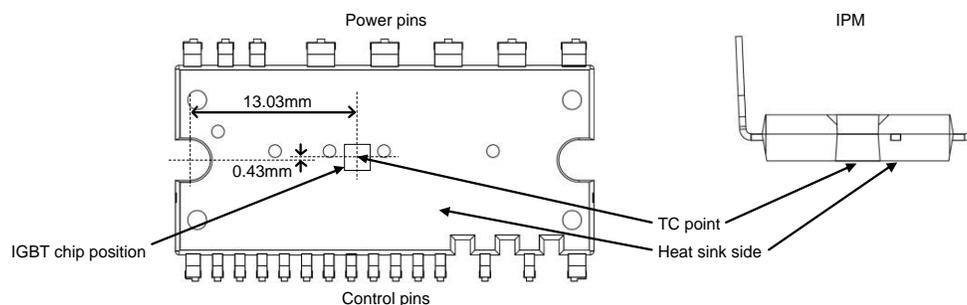

Figure 1. T_C Measurement Point
1. For the measurement point of case temperature (T_C), please refer to Figure 1.